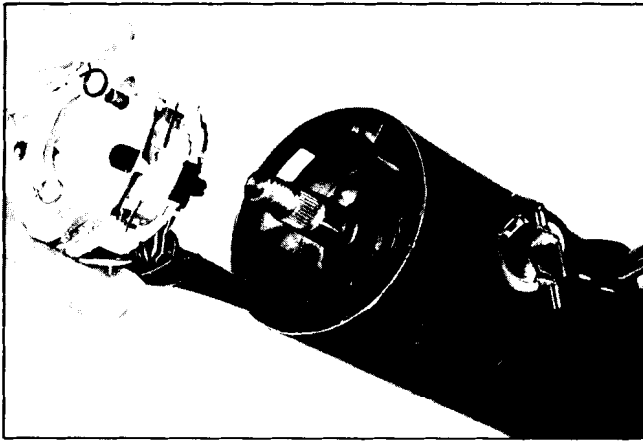

Fig. 9-25 Removing Turn Signal Switch
10. Pull the switch straight up with wire protector and remove from housing (Fig. 9-25).